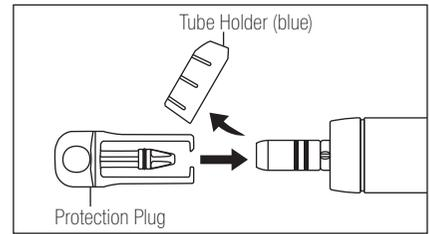

Fig.22
- 1) Remove the Tube Holder (blue) from the motor. Then, attach the Protection Plug to the motor. (Fig.22)